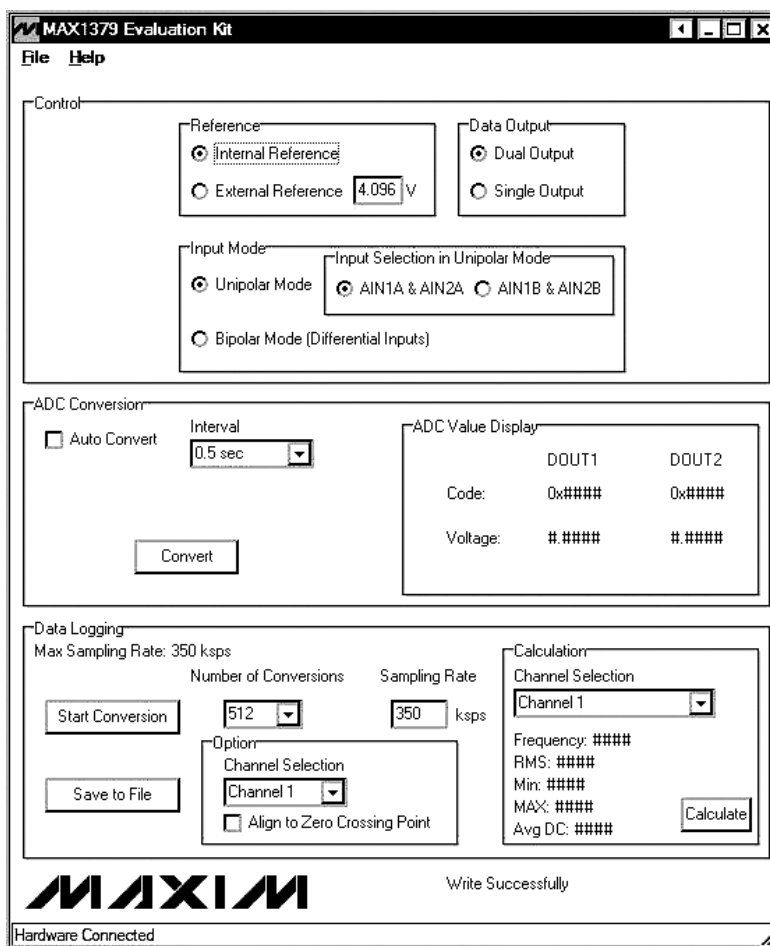

Figure 1. MAX1379 Evaluation Kit Main Window
- 17) Start the MAX1379 EV kit software by opening its icon in the **Start | Programs** menu. The EV kit software main window appears, as shown in Figure 1.
The MAX1379 EV kit software's window is shown in Figure 1. The **Control** group box located at the top of the window has all the functions that configure the MAX1379. Functions that relate to reading single-sample ADC values in the **ADC Conversion** group box are located in the middle section. Data logging functions and data calculation are in the **Data Logging** group box located at the bottom of the main window.